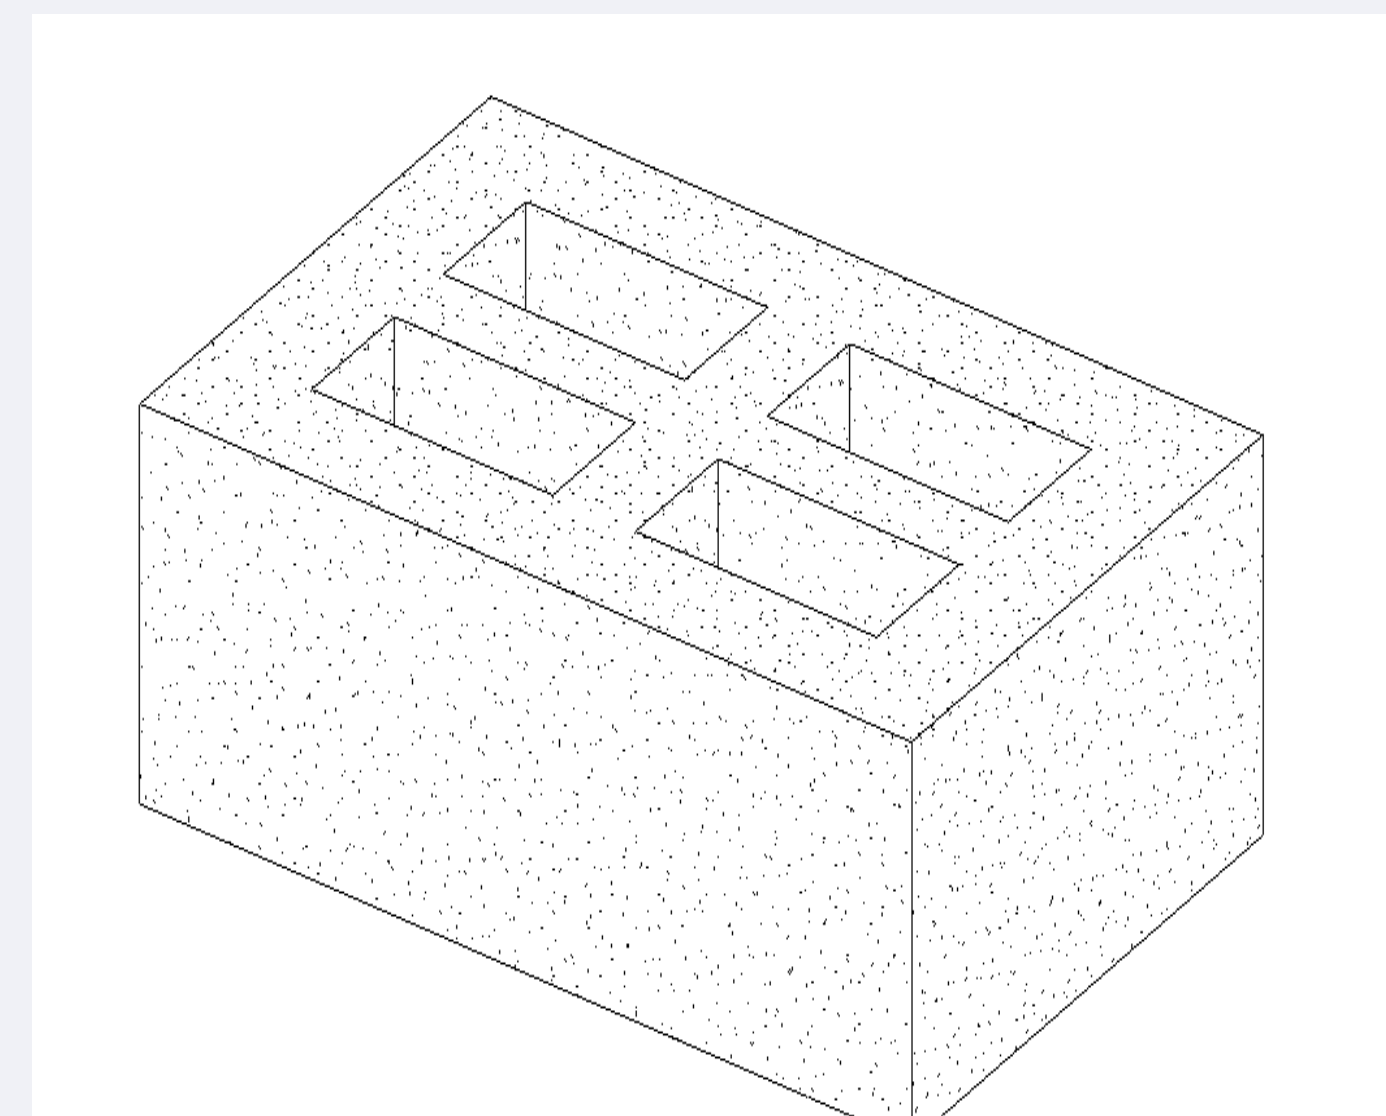

Fig. 5
- The final dimensions of the reinforced concrete block are 14'L X 9'W X 4'H with four voids to reduce weight as seen in Fig. 5. Each block will weigh approximately 53,290lbs.